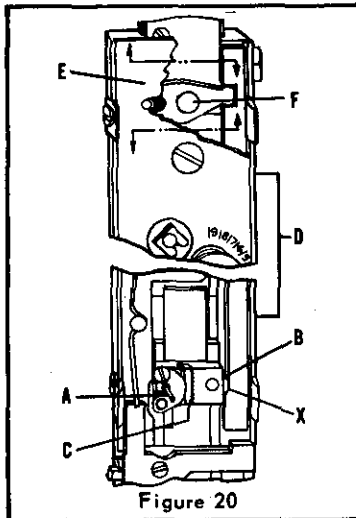

Figure 20
**I. Grip, Grip Release Slide And Face Plate (Figure 20)**